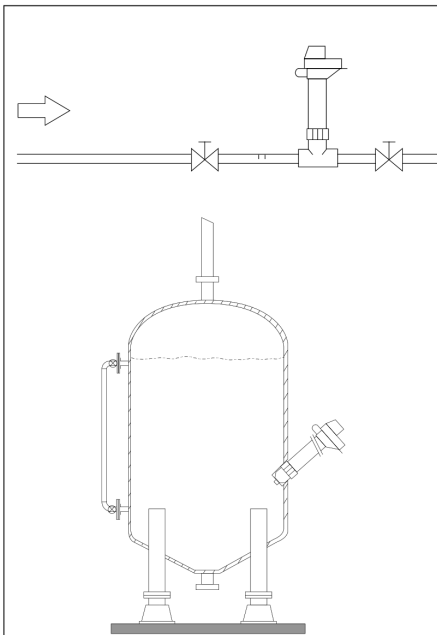

Figure 5. Mounting examples
- The Direct Insertion Probe is ideal for installation directly in a flow line or tank. Preferably the Direct Insertion Probe should be mounted between 2 isolation valves in a position as indicated in fig. 5 Mounted in this way maintenance is easy and in flow conditions the tip of the electrode will always stay wetted